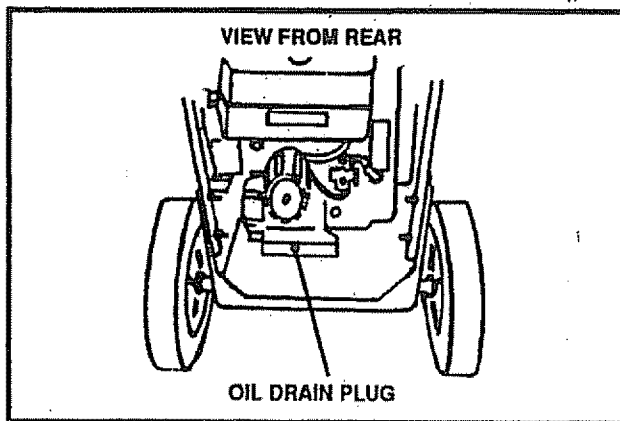

FIG. 8
- Remove the oil drain plug (See Fig. 8) and drain the oil into a flat pan.